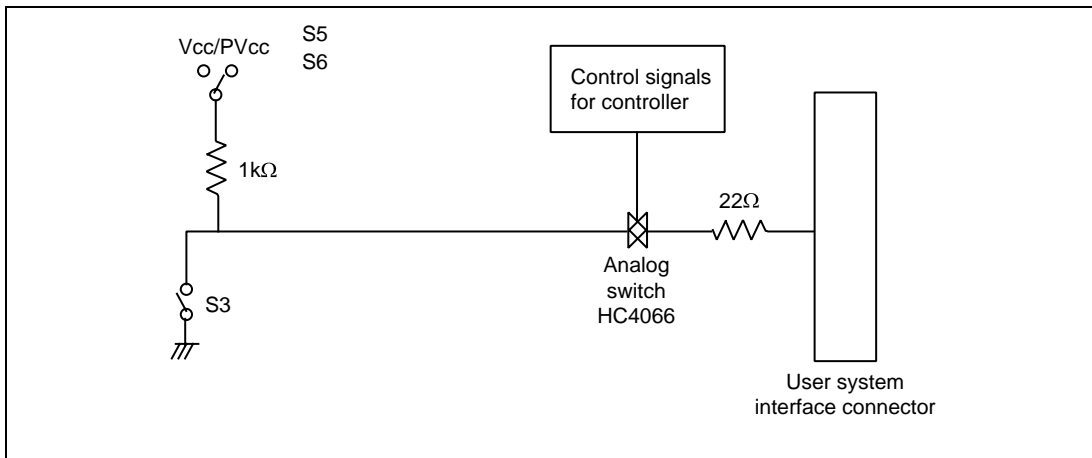

Figure 4.1 Control-Signal Circuit Example
2. Do not directly connect control signals FWP/FWE, MD0, MD1, IO0, IO1, or IO2 to Vcc or GND. The user interface of the adapter board is shown figure 4.1.